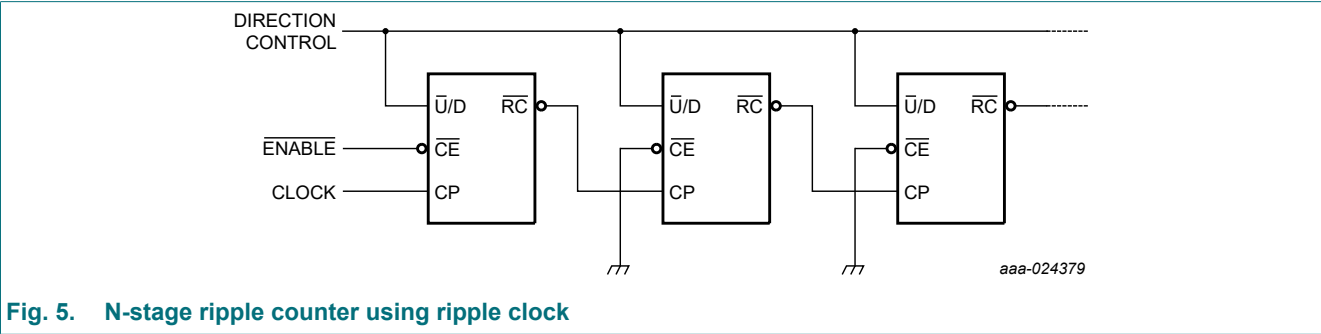
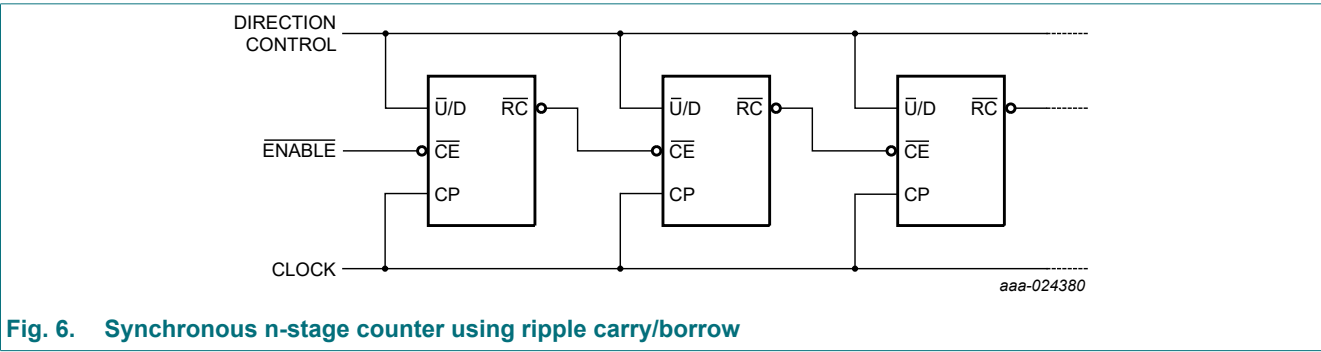
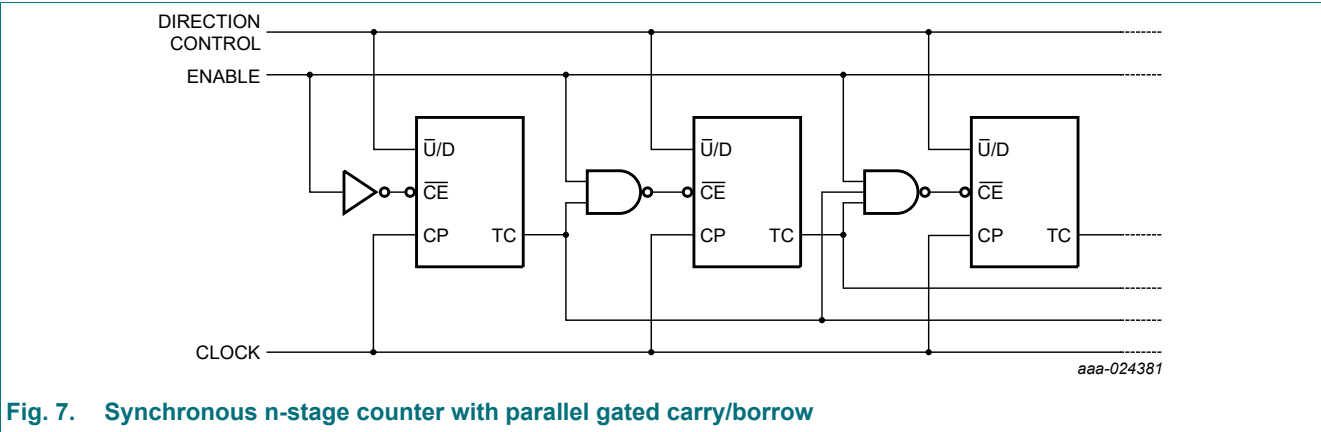

Fig. 5. N-stage ripple counter using ripple clock
Fig. 6. Synchronous n-stage counter using ripple carry/borrow
Fig. 7. Synchronous n-stage counter with parallel gated carry/borrow
The 74HC191 is an asynchronously presetable 4-bit binary up/down counter. It contains four master/slave flip-flops with internal gating and steering logic to provide asynchronous preset and synchronous count-up and count-down operation. Asynchronous parallel load capability permits the counter to be preset to any desired value. Information present on the parallel data inputs (D0 to D3) is loaded into the counter and appears on the outputs when the parallel load ( $\overline{PL}$ ) input is LOW. This operation overrides the counting function. Counting is inhibited by a HIGH level on the count enable ( $\overline{CE}$ ) input. When  $\overline{CE}$  is LOW internal state changes are initiated synchronously by the LOW-to-HIGH transition of the clock input. The up/down ( $\overline{U/D}$ ) input signal determines the direction of counting as indicated in the function table. The  $\overline{CE}$  input may go LOW when the clock is in either state, however, the LOW-to-HIGH  $\overline{CE}$  transition must occur only when the clock is HIGH. Also, the  $\overline{U/D}$  input should be changed only when either  $\overline{CE}$  or CP is HIGH. Overflow/underflow indications are provided by two types of outputs, the terminal count (TC) and ripple clock ( $\overline{RC}$ ). The TC output is normally LOW and goes HIGH when a circuit reaches zero in the count-down mode or reaches '15' in the count-up-mode. The TC output will remain HIGH until a state change occurs, either by counting or presetting, or until  $\overline{U/D}$  is changed. Do not use the TC output as a clock signal because it is subject to decoding spikes. The TC signal is used internally to enable the  $\overline{RC}$  output. When TC is HIGH and  $\overline{CE}$  is LOW, the  $\overline{RC}$  output follows the clock pulse (CP). This feature simplifies the design of multistage counters as shown in Fig. 5 and Fig. 6. In Fig. 5, each  $\overline{RC}$  output is used as the clock input to the next higher stage. It is only necessary to inhibit the first stage to prevent counting in all stages, since a HIGH on  $\overline{CE}$  inhibits the  $\overline{RC}$  output pulse. The timing skew between state changes in the first and last stages is represented by the cumulative delay of the clock as it ripples through the preceding stages. This can be a disadvantage of this configuration in some applications. Fig. 6 shows a method of causing state changes to occur simultaneously in all stages. The  $\overline{RC}$  outputs propagate the carry/borrow signals in ripple fashion and all clock inputs are driven in parallel. In this configuration the duration of the clock LOW state must be long enough to allow the negative-going edge of the carry/borrow signal to ripple through to the last stage before the clock goes HIGH. Since the  $\overline{RC}$  output of any package goes HIGH shortly after its CP input goes HIGH there is no such restriction on the HIGH-state duration of the clock. In Fig. 7, the configuration shown avoids ripple delays and their associated restrictions. Combining the TC signals from all the preceding stages forms the  $\overline{CE}$  input for a given stage. An enable must be included in each carry gate in order to inhibit counting. The TC output of a given stage is not affected by its own  $\overline{CE}$  signal therefore the simple inhibit scheme of Fig. 5 and Fig. 6 does not apply. Inputs include clamp diodes. This enables the use of current limiting resistors to interface inputs to voltages in excess of  $V_{CC}$ .